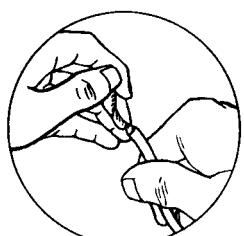

Fig. 6
6. Twist small wires together, clockwise (Fig. 6).